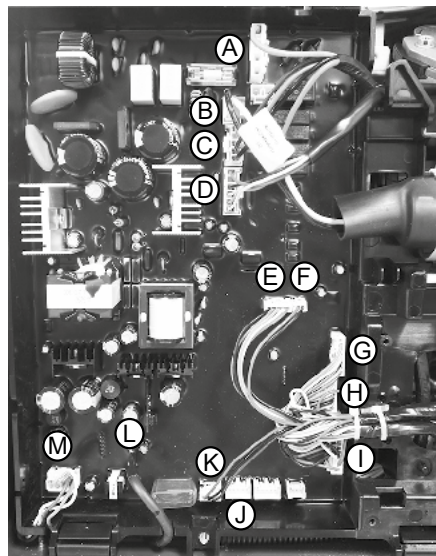

Figure 8 - Wiring harness connection points.
- 17 Using Figure 8, remove harnesses E - I and K.